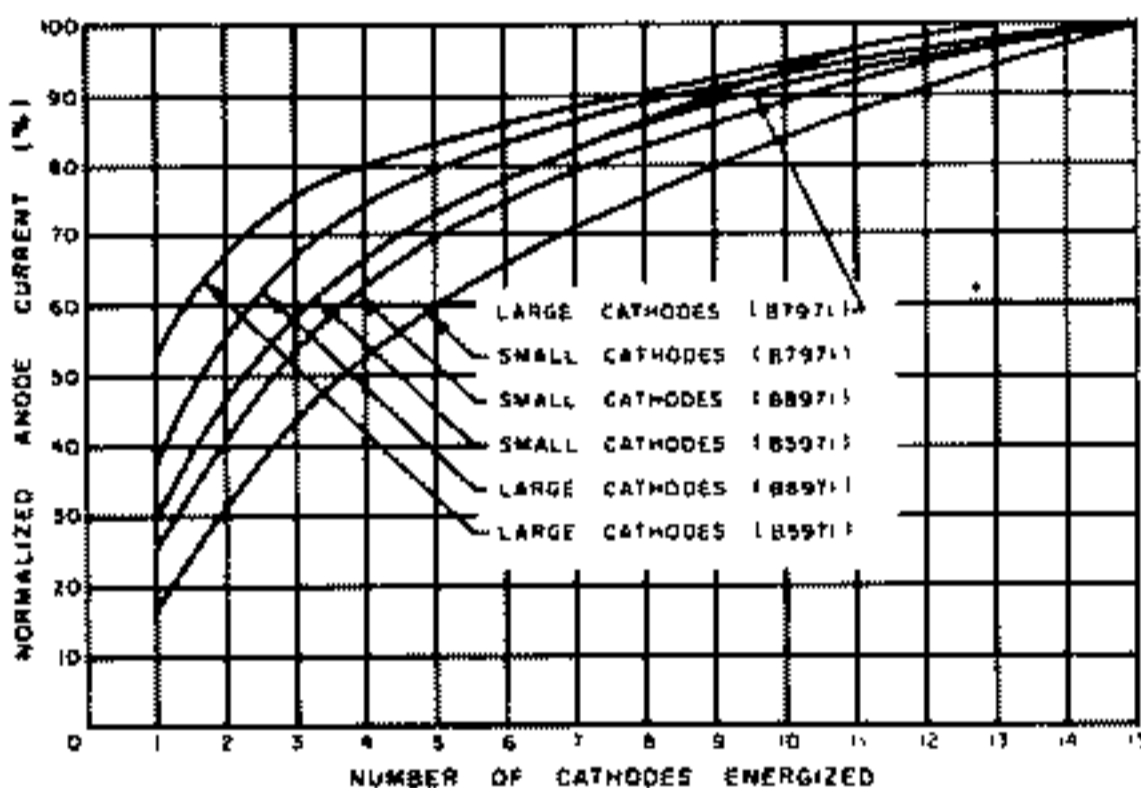

Figure 7. ANODE CURRENT DISTRIBUTION
6. Power requirements for the tubes depend to a large extent upon the application; i.e., the maximum number of cathodes required to be ionized at any one time. The graph shown in Fig. 7 gives the normalized anode current as a function of the number of cathodes ionized.